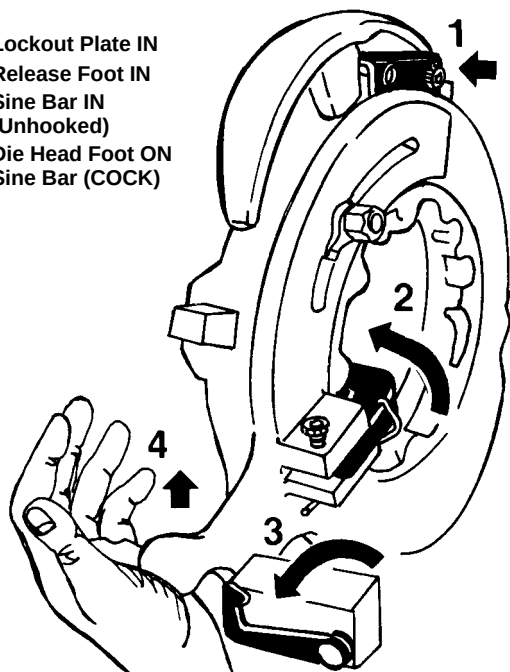

Figure 11 – Setting No. 714 or 914 Self-Opening Die Head for NPT or BSPT Threads
3. Position lockout plate IN. (Figures 11 & 14)
4. Release foot IN. (Figure 11)
5. Sine Bar should be IN (UNLATCHED). (Figures 11 & 14)
6. With die head in DOWN position, push UP on cam locking plate handle (Figure 11, Step 4) until release foot latches in die head body.